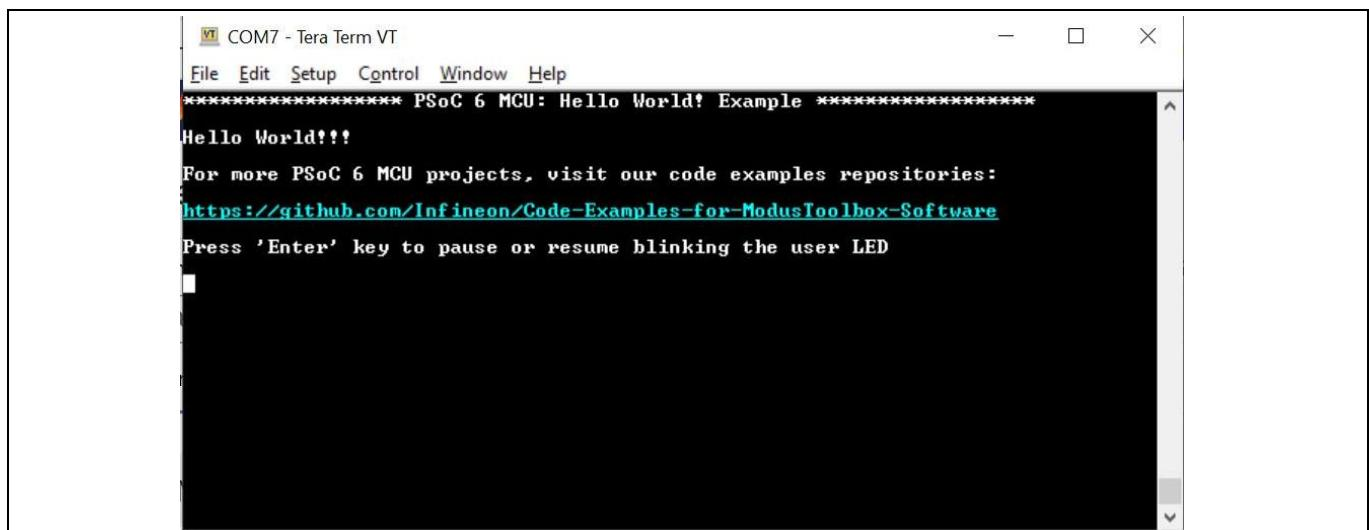

Figure 16 “Hello World” message in the terminal
3. Press the reset button (SW1) on the board and confirm that terminal application displays code example title and other text **Figure 16**.